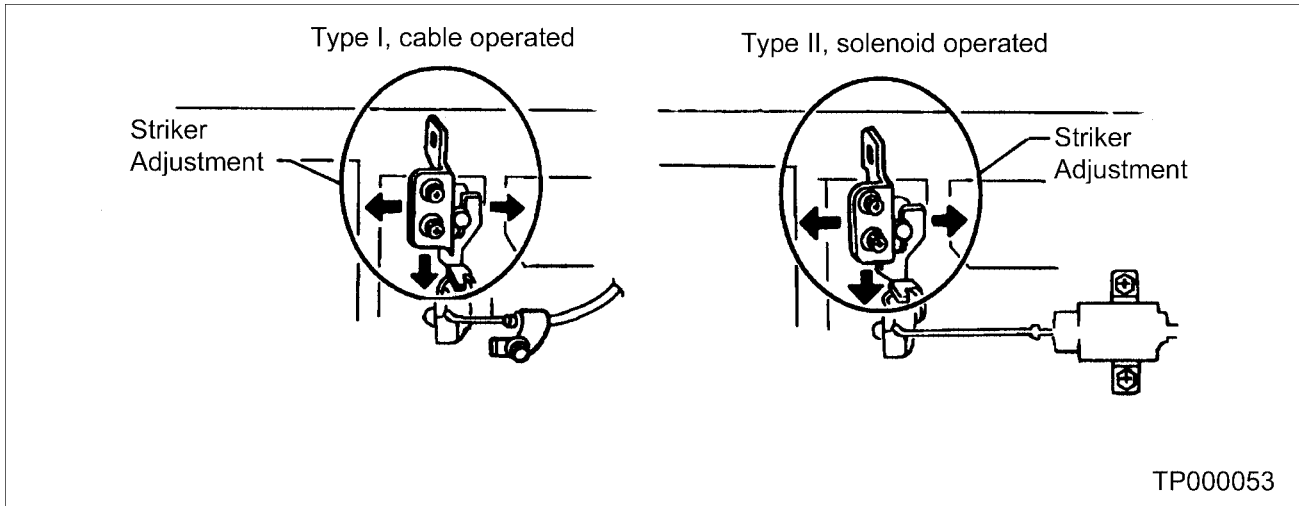

Figure 1
2. Loosen the bolts that secure the striker to the body (see Figure 1).